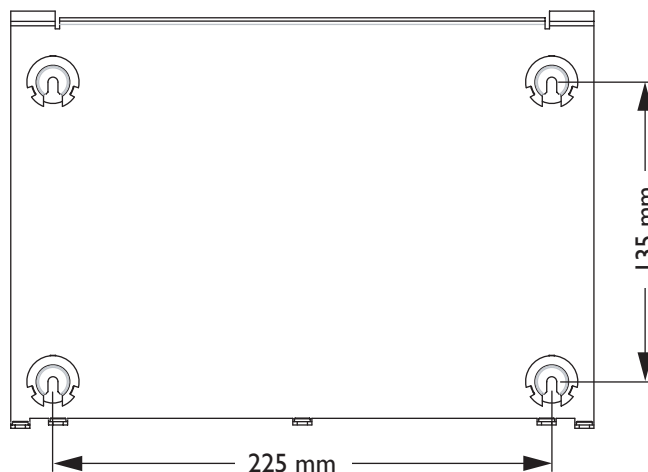

Figure 2: Wall mounting dimensions
- Drill four holes in the wall using the dimensions as given in Figure 2.